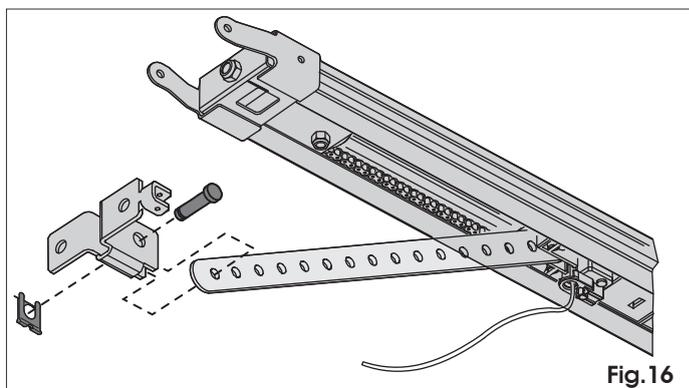
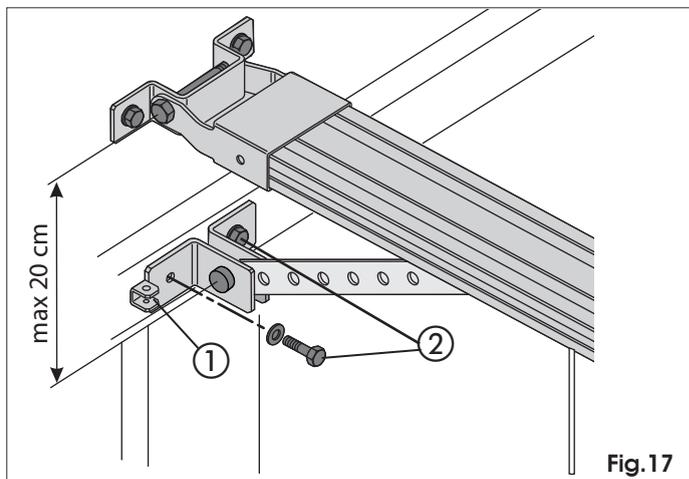

Fig.16
Fig.17
- 1) Assemble the fitting with the carriage rod (Fig. 16). Position the fitting on the door so that the through-element of the release cable is facing toward the left side of the door (ref. ① Fig. 17).
- 4) Make sure that the distance between the between-centres of the securing holes of the front fitting and the on-door fitting does not exceed 20 cm (Fig. 17). To ensure correct operation of the automated system, we advise you to avoid arm inclinations of over 30° compared to the sliding guide. If using the curved arm for sectional doors (optional), carry out the assembly with the straight arm of the carriage as shown in Fig. 18. To improve efficiency of the anti-crushing system, we advise you to secure the fitting on the sectional door as low as possible, without, however, exceeding the distance of 40 cm from the operator's front fitting.
- 5) Mark, drill and secure the fitting to the door, using the screws (ref ② Fig. 17) **NOT** supplied.